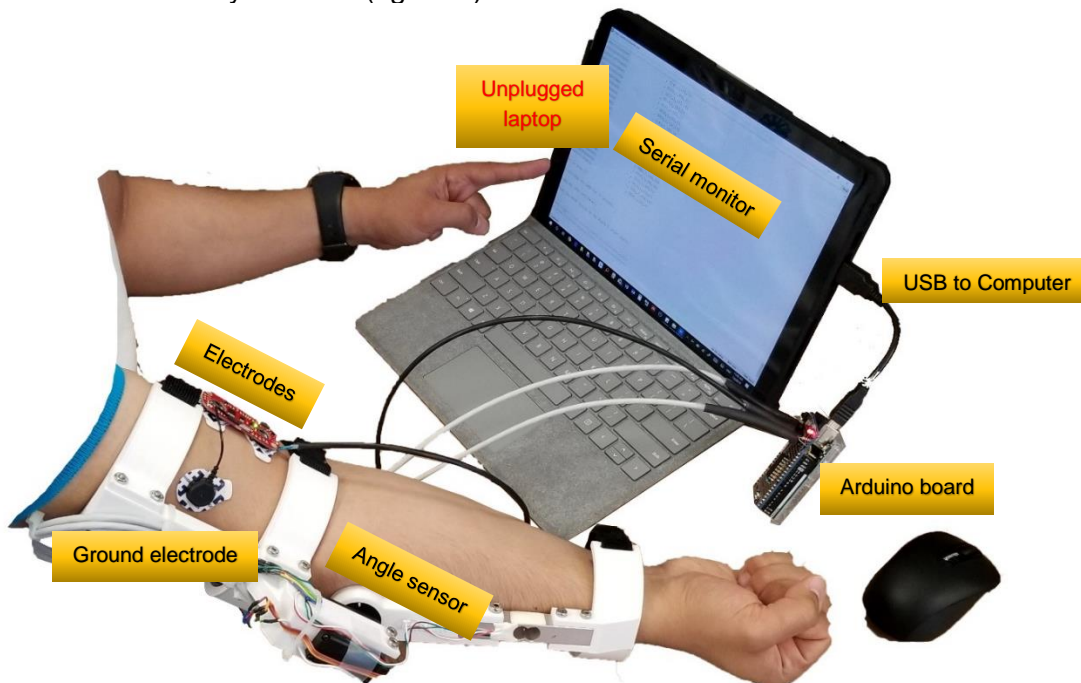

Figure 4: Setup for tutorial for measuring electromechanical delay with EduExo.
- 4) Let a participant wear EduExo with electrodes placed on the "medial biceps femoris". The participant has to be able to see the laptop screen. Make sure that the laptop is not connected to the power outlet for safety reasons (figure 4).